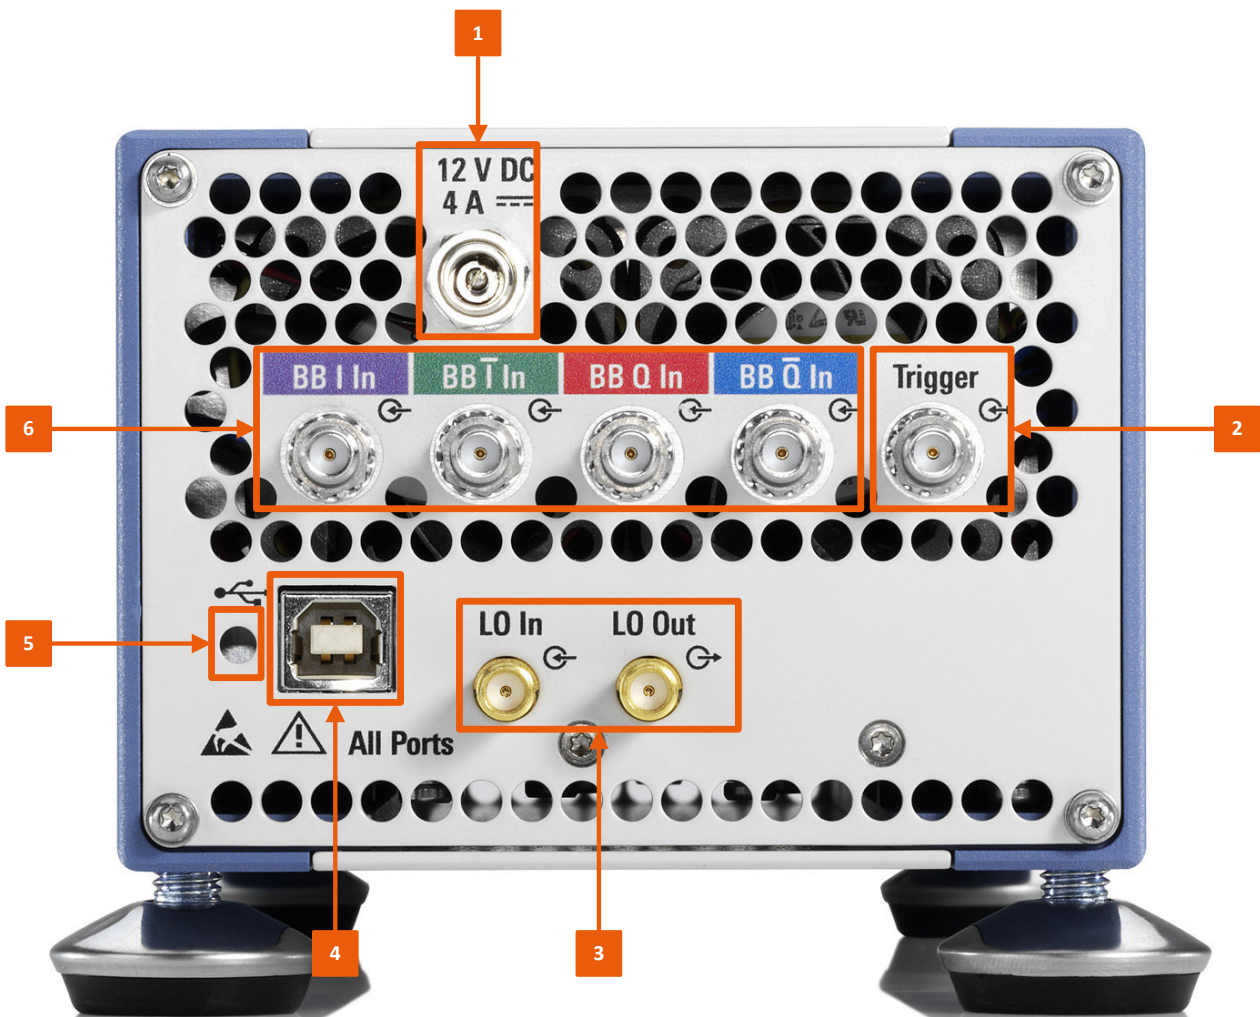

Figure 5-4: Rear view of the R&S SZU
Use the external power supply and AC power cable delivered with the R&S SZU to supply the required voltage and current. Both values are stated on the casing above the DC power connector, see Figure 5-4.
Connection for the DC power supply (Figure 5-4, (1)).
Connector for an optional trigger signal (Figure 5-4, (2)). The trigger connector is an SMA coaxial connector with 50 Ohm impedance.
Connectors for RF signal input and output (Figure 5-4, (3)). These connectors are SMA coaxial connectors with 50 Ohm impedance. LO In receives the LO signal from the R&S SMW / R&S SMM, and LO Out is intended for future use, e.g. to forward the LO signal when using multiple R&S SZU in a daisy chain.
Universal serial bus (USB) interface of type B (Figure 5-4, (4)). This port is used to communicate with the host instrument, the R&S SMW / R&S SMM.
Input connectors for the single-ended (I/Q) or differential (I/Q, I/Q BAR) baseband signal (Figure 5-4, (6)). These connectors are SMA coaxial connectors with 50 Ohm impedance.
Indicates the instrument status (Figure 5-4, \(5\)).